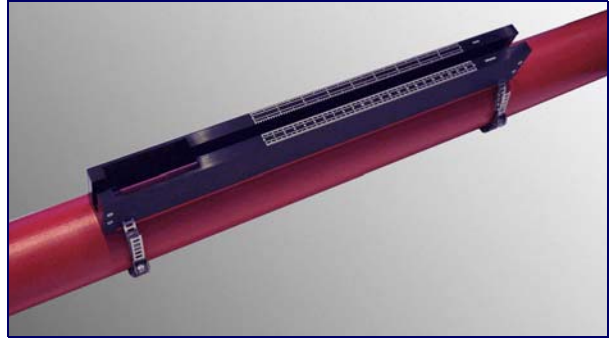

Figure 2.5
2. Position the guide rail horizontally on the pipe at 45° to the horizontal and secure in position using the stainless steel banding as shown in Figure 2.5.